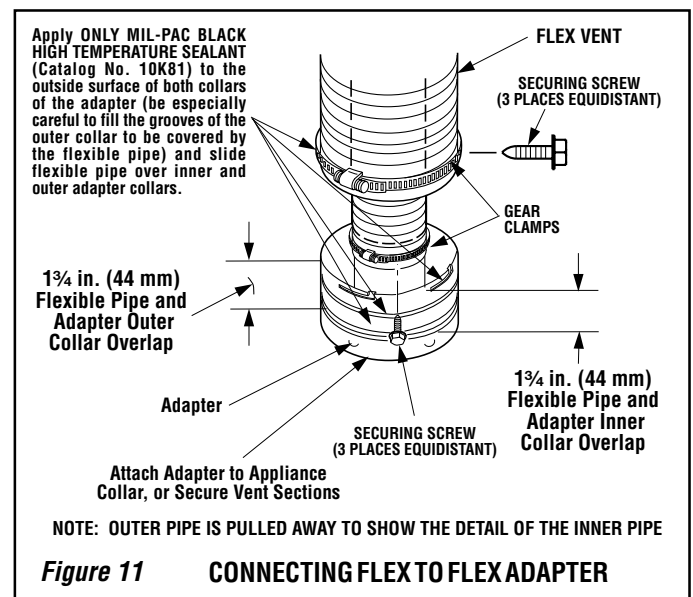

Figure 11 CONNECTING FLEX TO FLEX ADAPTER
Step 18. Attach the Flexible Vent to the Adapter (See parts A and B below and Figure 11) -